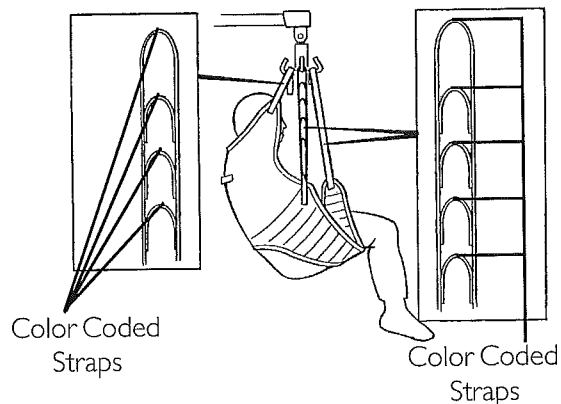

FIGURE 4.2 Attaching Slings to the Lift - Attaching Slings Using Color Coded Straps
NOTE: For this procedure, refer to FIGURE 4.2.
2. Match the corresponding colors on each side of the sling for an even lift of the patient, refer to FIGURE 4.2.